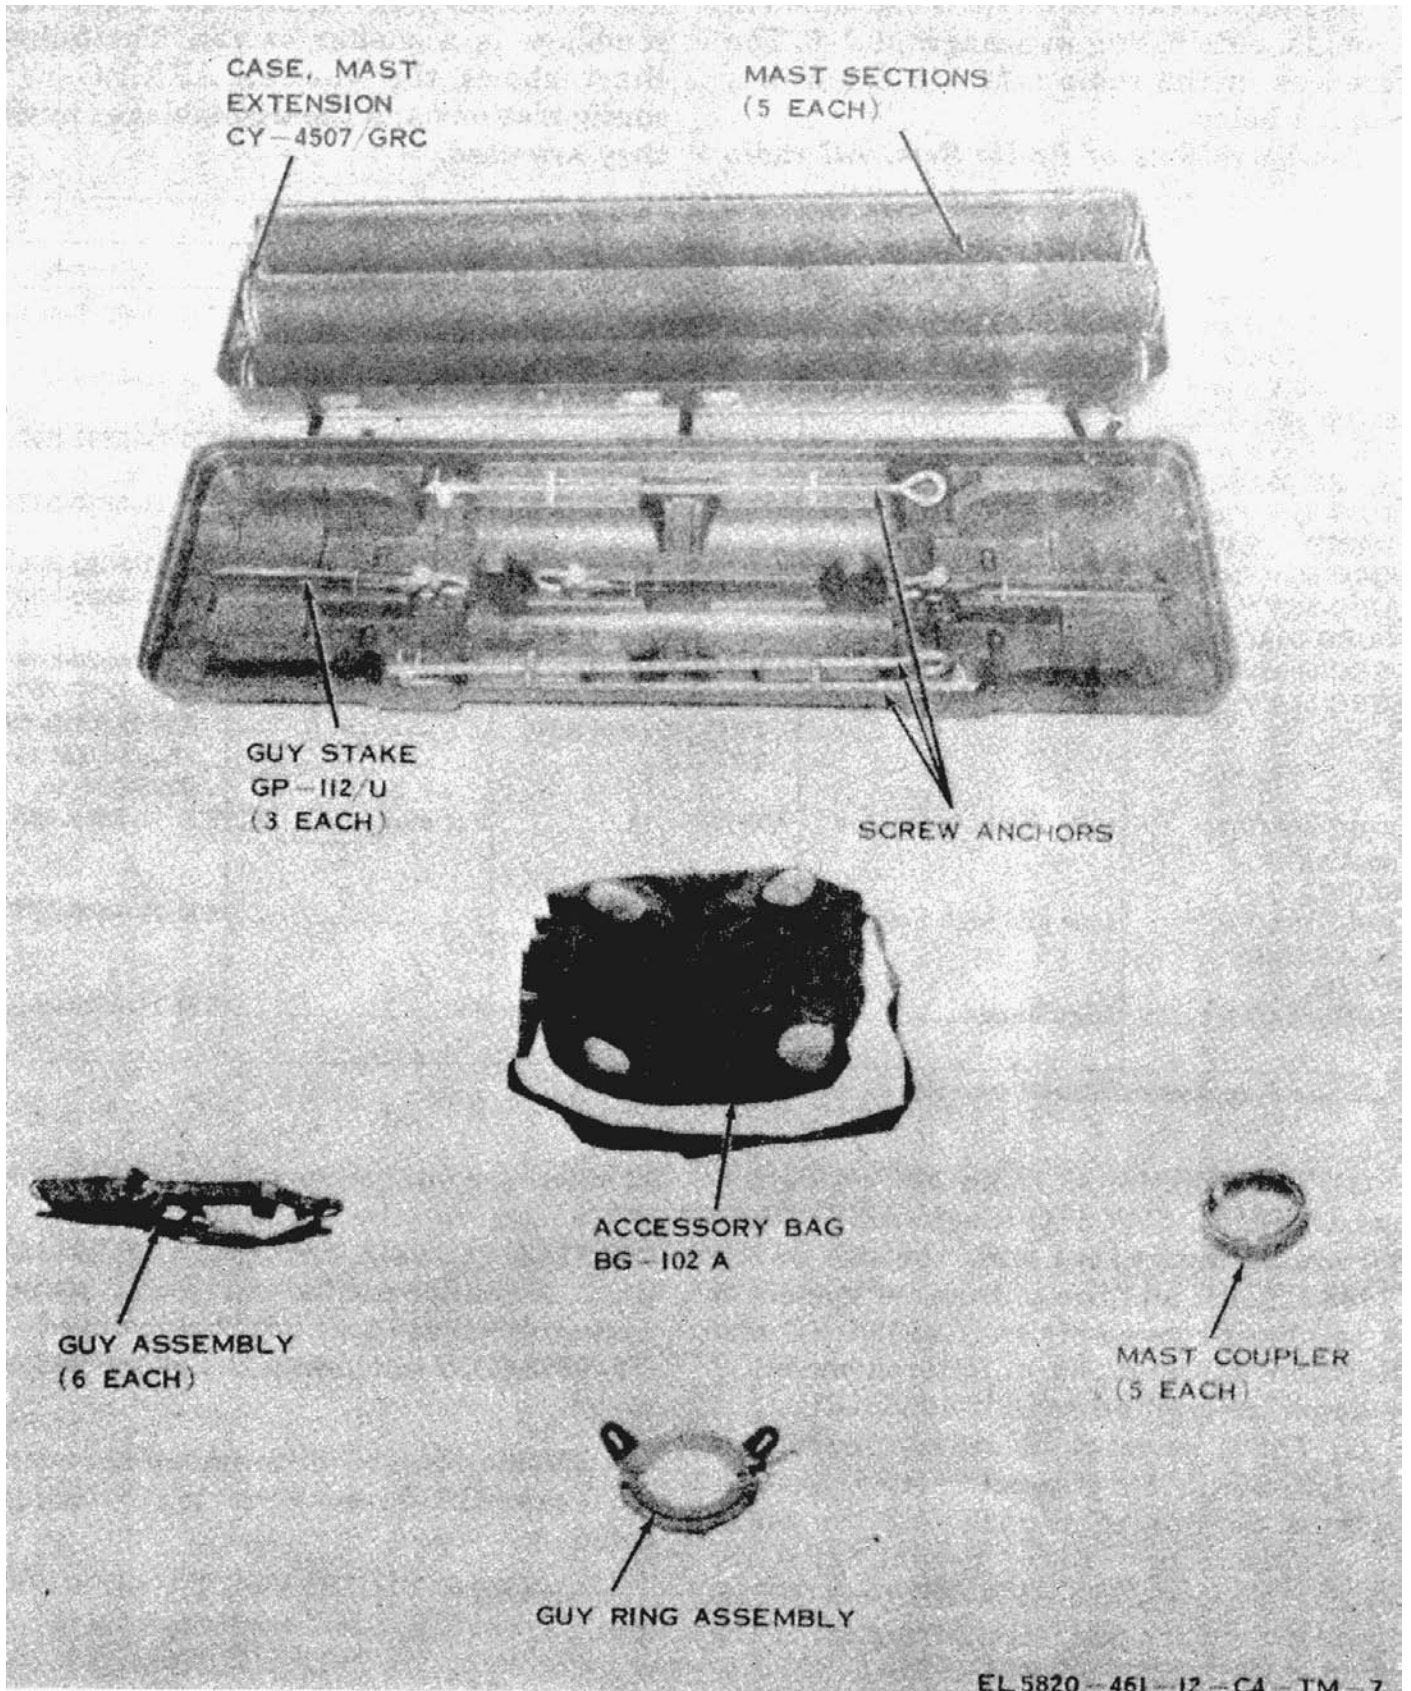

Figure 1-9. Extension Kit, Mast MK-806/GRC, components.
c. Extension Kit, Mast MK-06/GRC (fig. 1-9) (TM 11-5820-538-12) consists of five tubular sections (contained in a mast section carrier case), cable assembly, and accessories (contained in accessory bag). When assembled with the AB-577/GRC, it raises the height of the antenna system to 75 feet. It is used with but is not part of the AN/GRC-50(\*) (V).